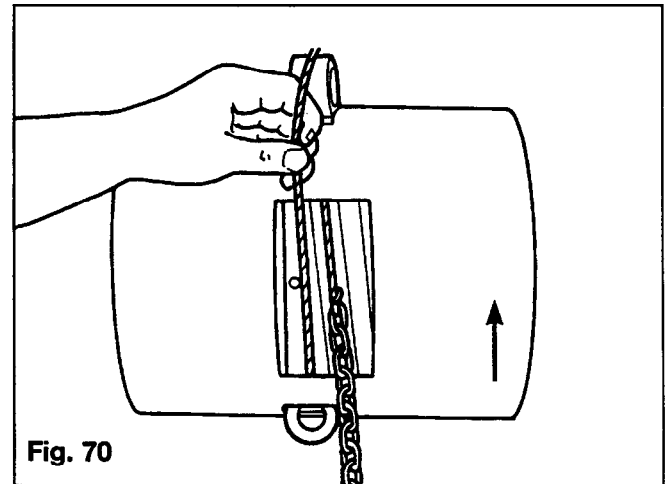

Fig. 70
1. Rotate reel (see direction of arrow in Figure 70) until anchor hole is visible.
2. Attach length of wire to last chain link. Locate the first groove in the reel to the right of the anchor hole. Insert wire into reel groove and push wire in direction shown in Figure 70.